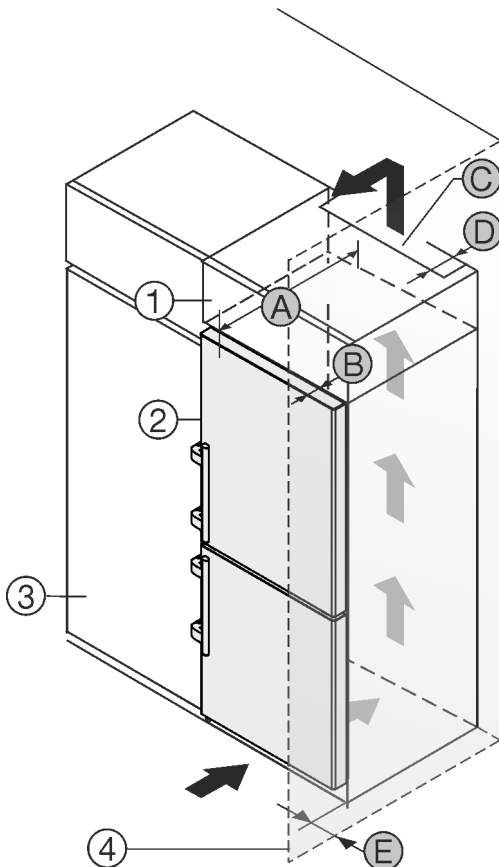

Fig. 2
- (1) Top cabinet *
- (2) Appliance *
- (3) Kitchen cabinet *
- (4) Wall *
- (A) Appliance depth *
- (B) Door depth *
- (C) Ventilation cross section *
- (D) Distance to the back of the appliance *
- (E) Distance to the side of the appliance *
You can place the appliance directly beside the kitchen cabinet *Fig. 2 (3)*.*
There must be a ventilation shaft at the depth *Fig. 2 (D)* of the back of the top cupboard over the entire width of the top cupboard.*
The ventilation cross-section *Fig. 2 (C)* must be maintained under the ceiling.*
If the appliance is set up with the hinges next to a wall *Fig. 2 (4)*, the distance between the appliance and the wall must be at least 57 mm. This is how far the handle protrudes when the door is open.*
In order to be able to fully open the door, the appliance must protrude by the depth of the door *Fig. 2 (B)* from the front of the kitchen cabinet. The appliance may protrude further depending on the depth of the kitchen cabinets *Fig. 2 (3)* and whether wall spacers are used.*